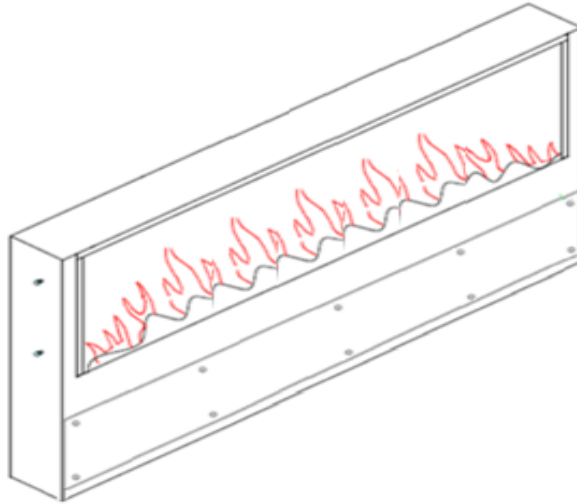

**Fig. 2**
1. On each side of the fireplace are two locating studs. **Figure 2**